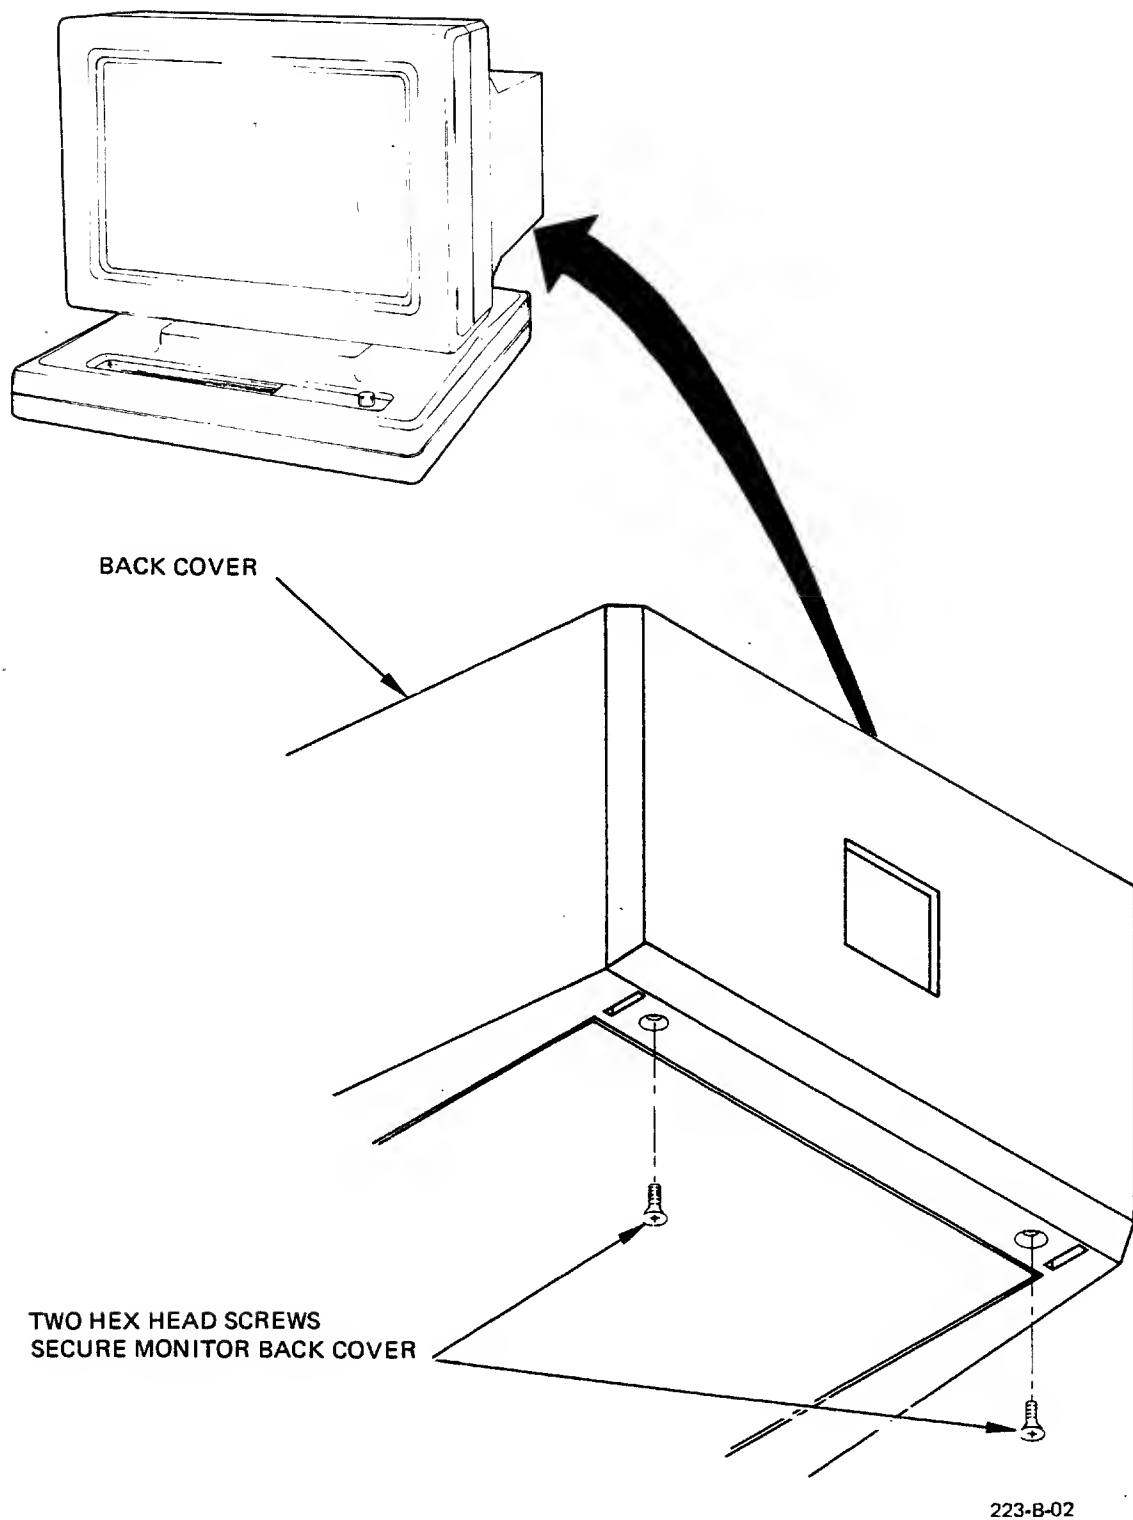

Figure 2-4. Monitor Back Cover Removal and Replacement
To remove the back cover for access to the upper monitor area (CRT and video PCB), proceed as follows. Refer to Figure 2-4.
1. Install the back cover on the monitor by sliding it into position on the display swivel support. Refer to Figure 2-4.